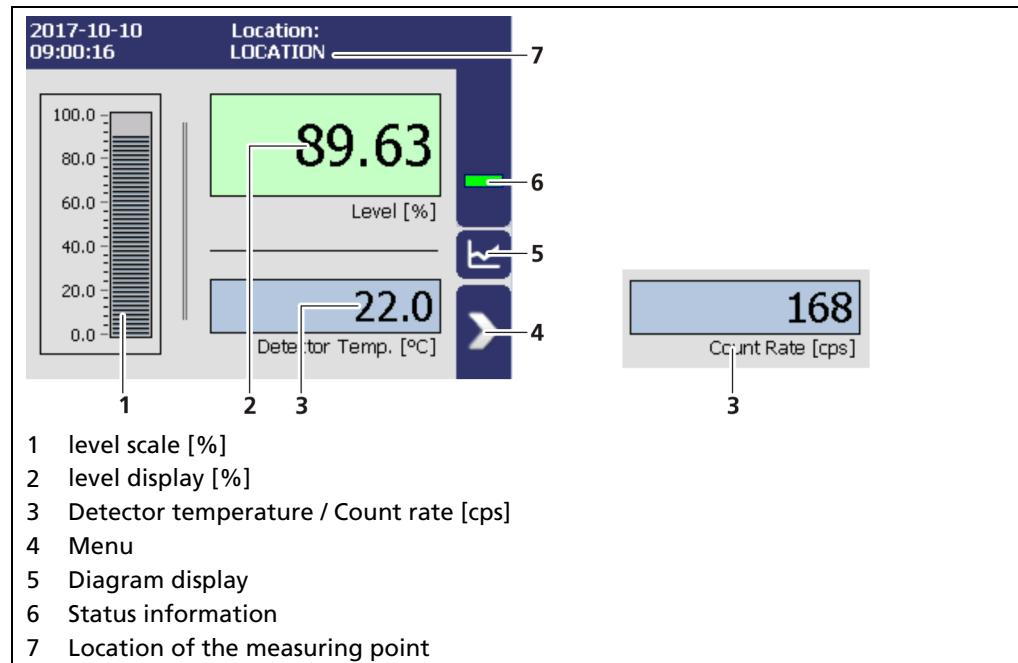
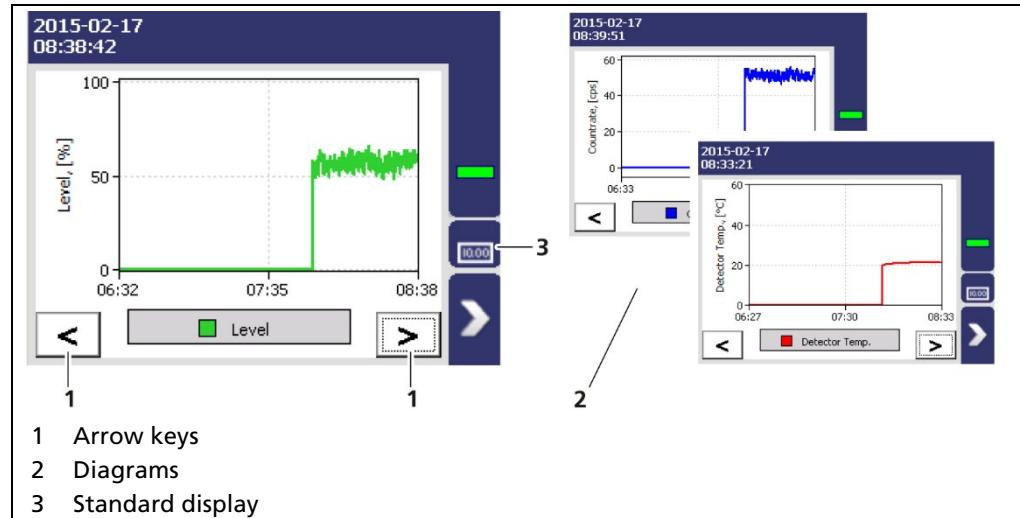
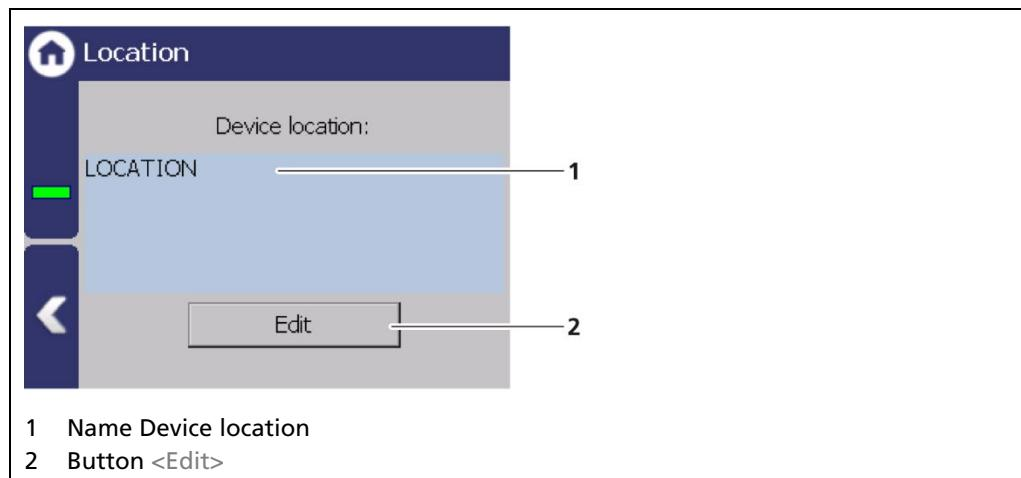

Fig. 25 Standard display of the EVU
Fig. 27 Diagram display of the EVU
Fig. 33 Device location
Clicking the diagram symbol (Fig. 25, item 5) changes the view to the diagram display. The arrow keys (Fig. 27, item 1) are used to switch between the diagrams Level – Count Rate – Detector Temperature.
Clicking the display symbol (Fig. 27, item 3) changes the view to the standard display.
The location of the evaluation unit is displayed (Fig. 33, item 1) in the Location menu. The name can only be edited (7.2 Menu Access) in the access level "Standard". The Location is displayed on the EVU standard display (Fig. 25, item 7).